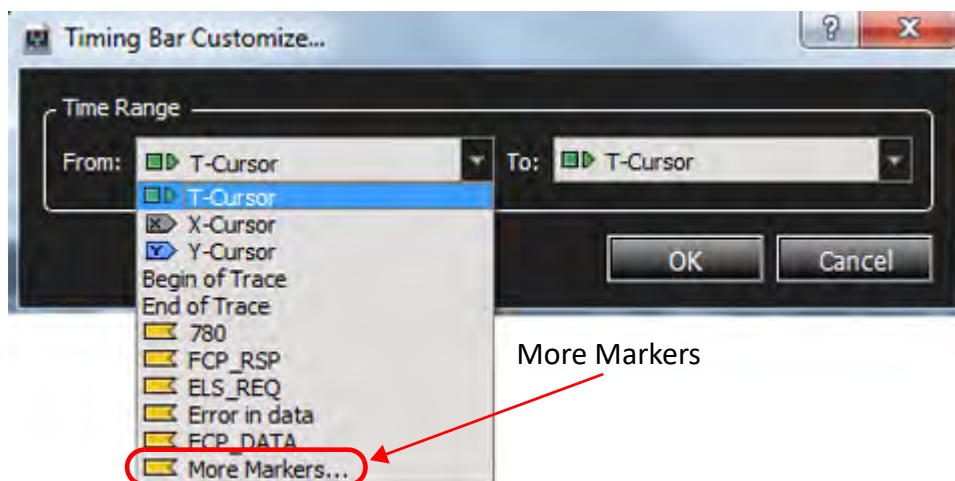

Figure 5.43: Customize Cursors for Timing Calculations
1. Click the **Customize Option** and the Timing Bar Customize window appears (Figure 5.43).